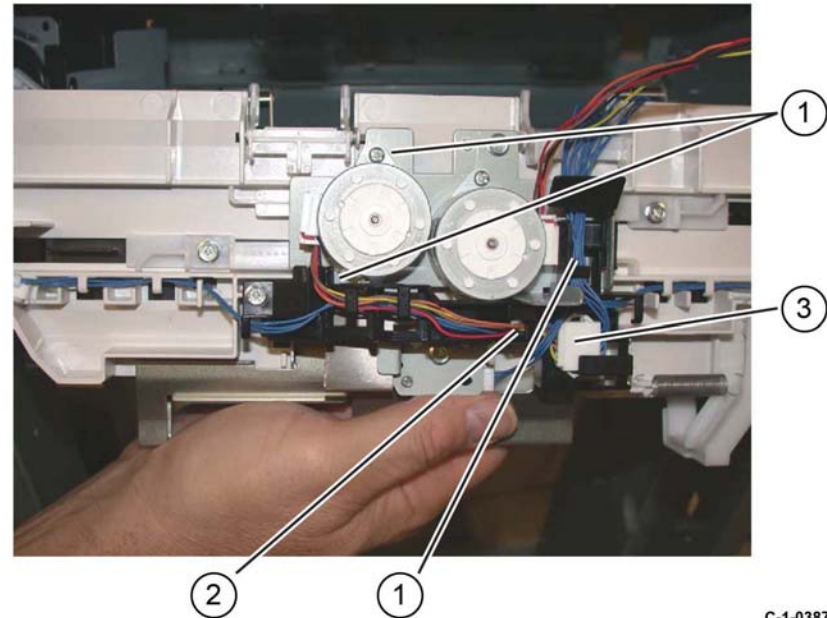

Figure 1 Tamper motor removal
3. Remove the tamper motor, Figure 1:
- a. Release the harness (1) from the harness guide.
- b. Remove the screw (2), then the harness guide.
- c. Disconnect the tamper motor connector (3).
- d. Remove both screws, then the relevant tamper motor (4).